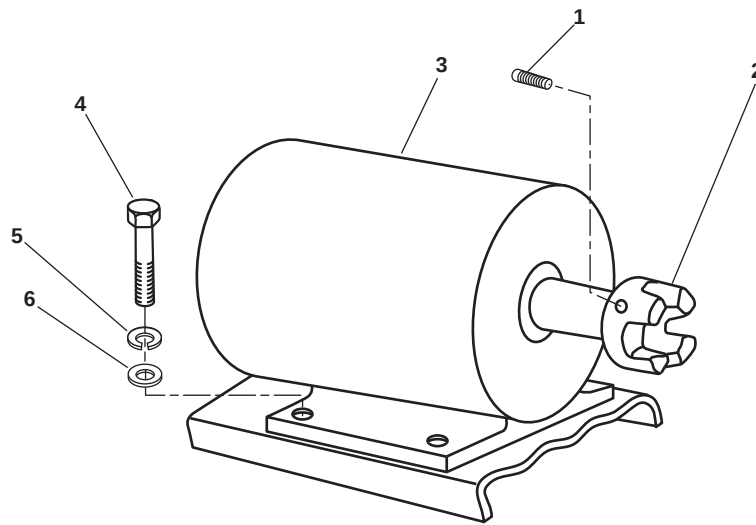

Figure 3. Electric Motor
7. Loosen the motor coupling flange setscrew (figure 3, item 1).
8. Slide the motor coupling flange (figure 3, item 2) towards the motor (figure 3, item 3).
9. Remove the four bolts (figure 3, item 4), the four lockwashers (figure 3, item 5), and the four flat washers (figure 3, item 6). Discard the lockwashers.
10. Remove the motor (figure 3, item 3) from the foundation.
11. Slide the motor coupling flange (figure 3, item 1) off the motor shaft.
6. Slide the motor coupling flange (figure 3, item 2) onto the motor shaft (refer to figure 3) with the flat end towards the motor (figure 3, item 3) housing.
7. Position the motor (figure 3, item 3) on the foundation with the mounting holes aligned.
8. Install the four bolts (figure 3, item 4), four new lockwashers (figure 3, item 5), and the four flat washers (figure 3, item 6). Do not tighten at this time.